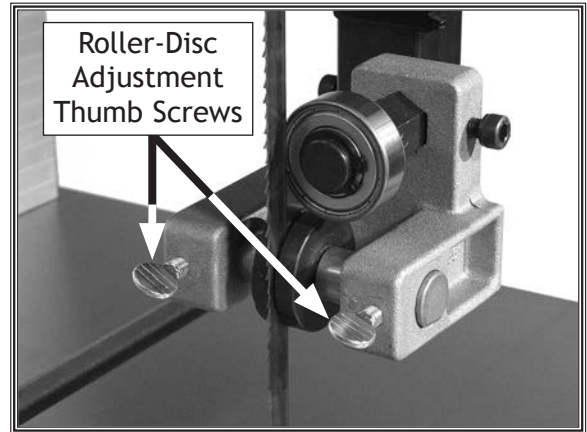

Figure 50. Location of upper roller-disc adjustment thumb screws (guide post cover removed for clarity).
3. Loosen both roller-disc adjustment thumb screws (see **Figure 50**), then position roller discs so they are close to—but not quite touching—sides of blade.